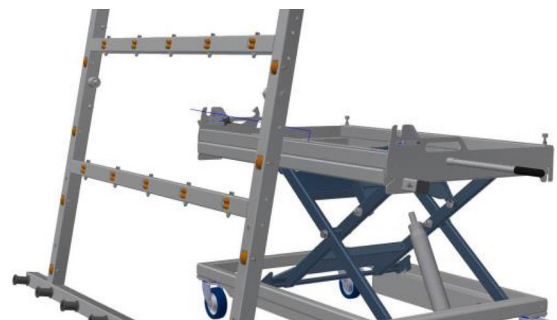

Fig. 5: Disassembly of the platform swivel device
Step 1: Loosen the screws to fix the swivel frame (Fig. 5, arrow) on both sides of the swivel frame and slide the fixing plates backwards so that the bolts of the swivel frame are free at the top.
Step 2: Lift the swivel frame upwards out of the bearing and remove it from the front (Fig. 5 below).